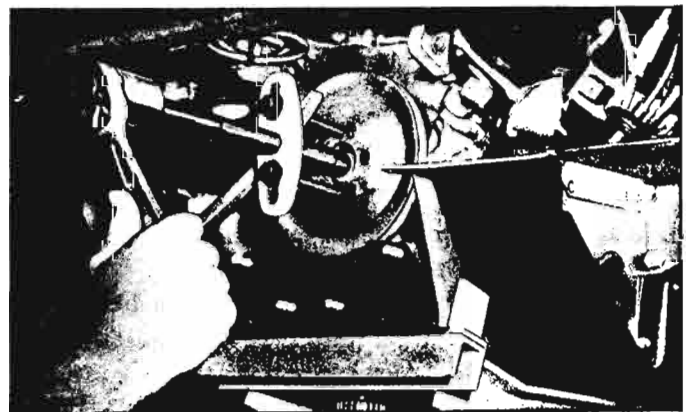

Fig. 6A-30—Removing Crankshaft Pulley—Engine Installed
9. Remove the oil filter and pulley belt. Install Tool J-8105 on crankshaft pulley, as shown in Figure 6A-30.
NOTE: The sealing lips of the rear housing seal are coated with high melting cup grease for the life of the seal (350°F.). Refer to Figure 6A-76, for a cross-section of seal.